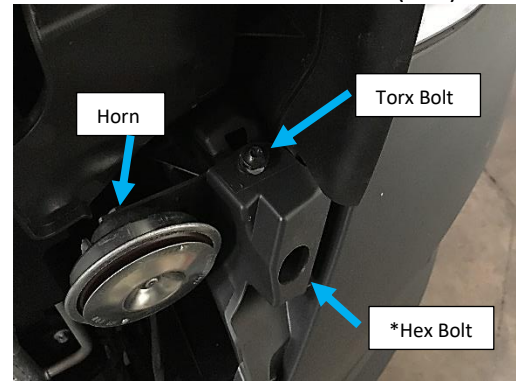

Figure 4: Torx Bolts Near Top of Stock Bumper
5. Remove the torx bolt near the top of the stock bumper on both sides seen with the grille removed. \*Some Sprinter models may have additional hex bolt in recessed hole that will also need to be removed. Reference Figure 4.